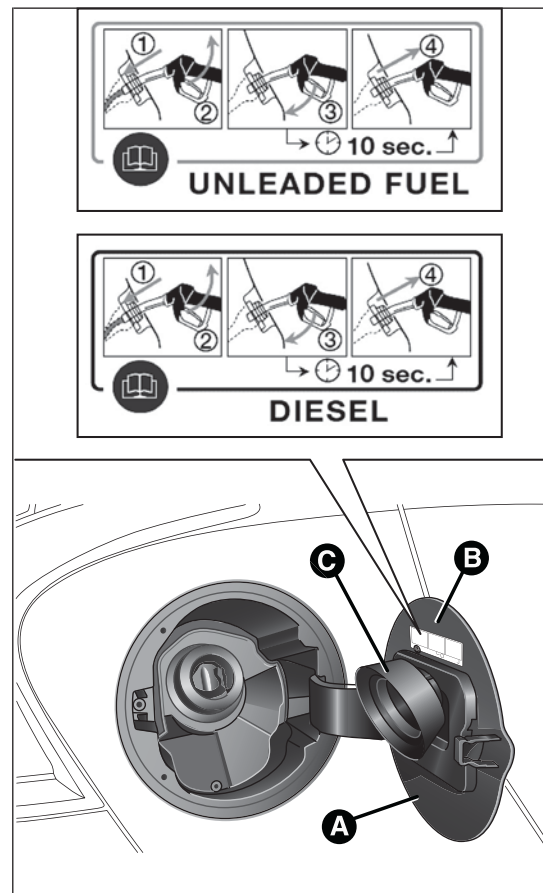

fig. 88
The refuelling procedure described here is illustrated on label B fig. 88, which is applied inside the fuel flap. The label also indicates the fuel type (UNLEADED FUEL=petrol, DIESEL=diesel fuel).
- open the flap A fig. 88 pulling it outwards;
Flap A fig. 88 is provided with a dust cowl C which prevents deposits of impurities and dust at the end of the filler when the flap is closed.